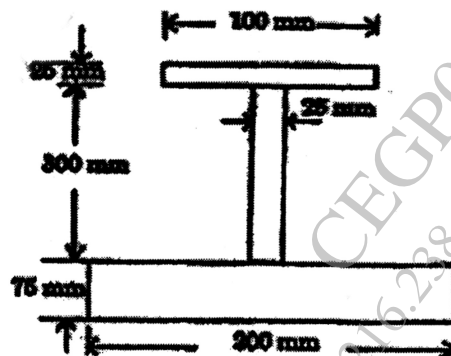

Fig. 4
- (b) Cross section of beam is shown in fig.4. Calculate central point load that SSB of span of 4m can carry if permissible stresses in bending are 120 MPa in compression and 40 MPa in tension. Take $I_{NA} = 425.17 \times 10^6 \text{ mm}^4$ [6M]